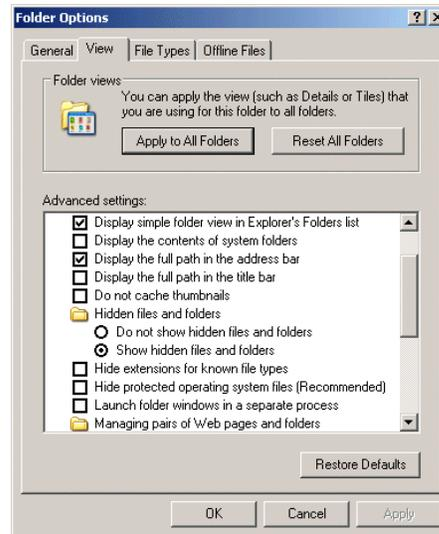

Figure 3-7: Windows Explorer Tools Folder Options... Dialog
- v. Uncheck the “Hide protected Operating system files....” as illustrated in Figure 3-7.